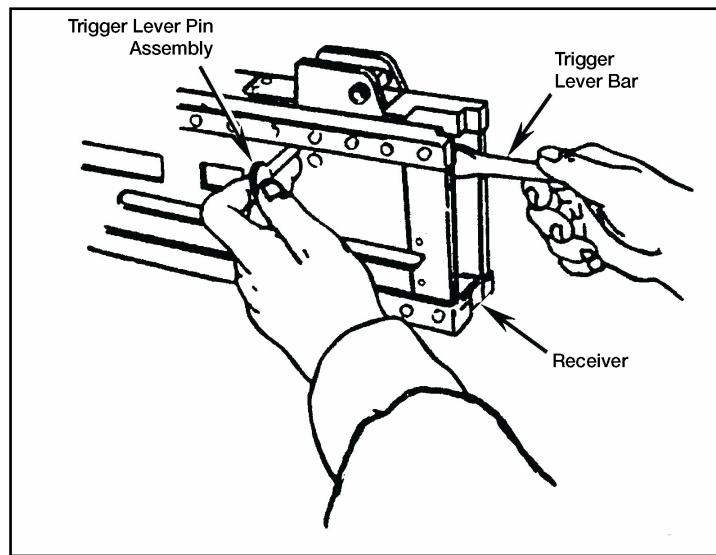

Figure 071-022-0001-23. Assembly of the trigger lever
- a. Assemble the trigger lever (figure 071-022-0001-23).